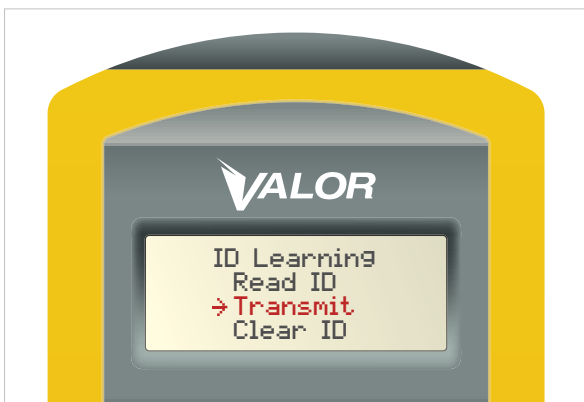

Figure 18
3. Scroll up and select the “Transmit” option (Figure 18)